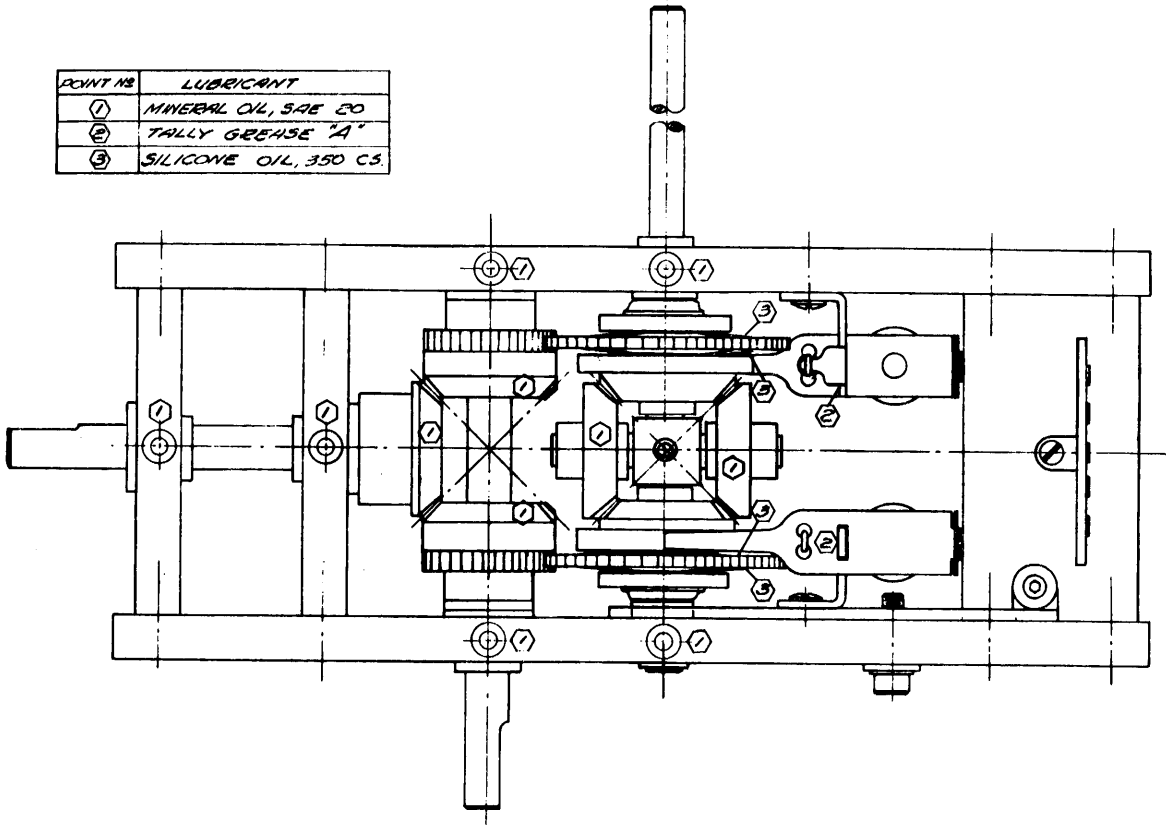

Figure 13. Lubrication Points (Sheet 2 of 2)
5.1 Lubrication (See Figure 13)